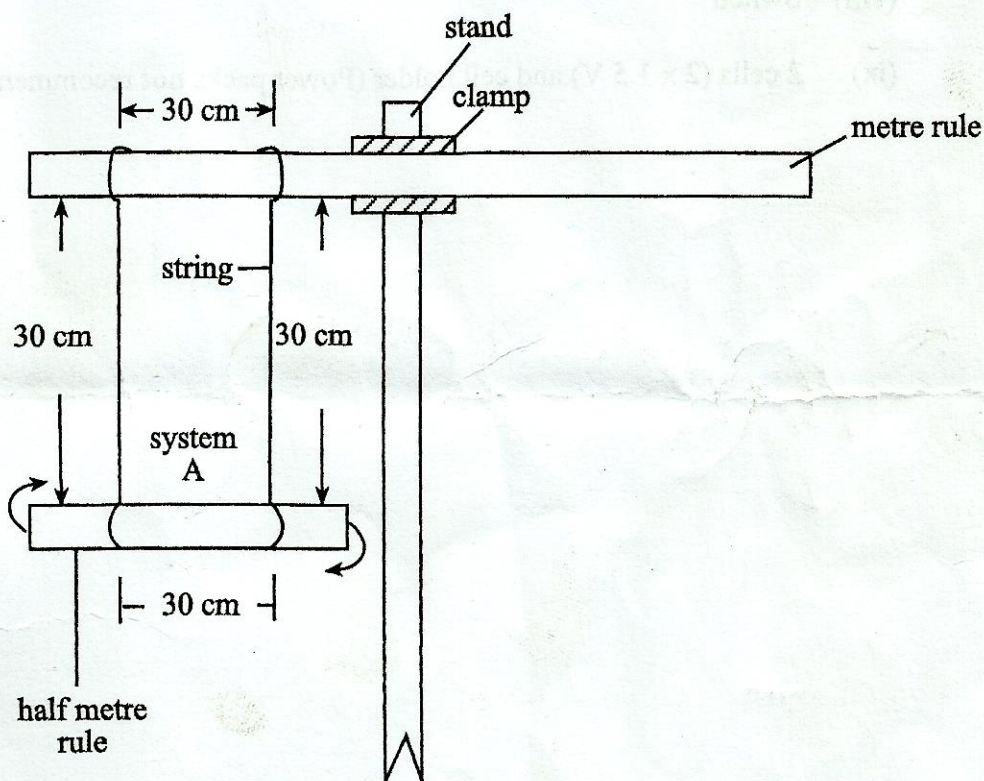

Fig.1.1
N.B The supervisor should set up Fig.1.1 for the candidate.